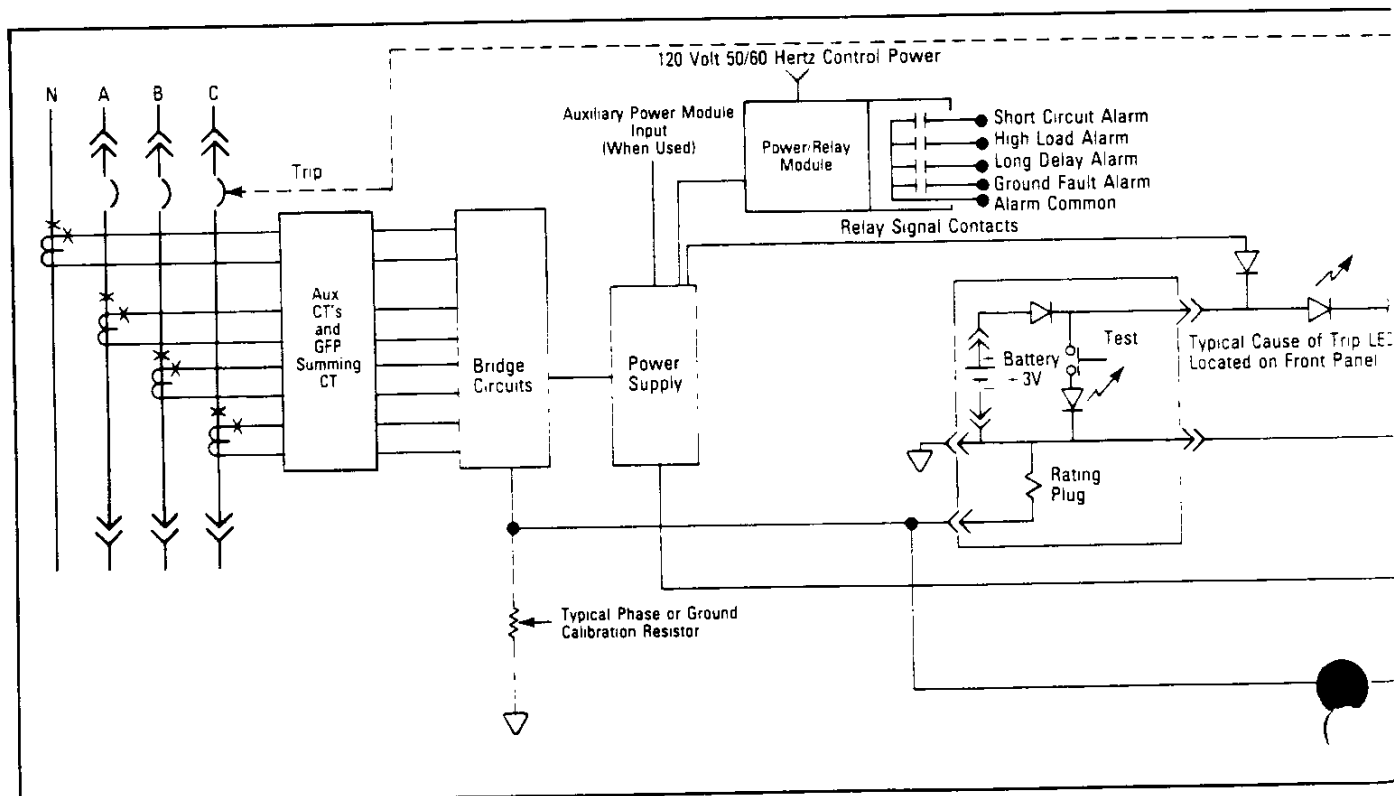

Fig. 3 DIGITRIP RMS 600 Block Diagram with Breaker Interface
The trip unit uses the INTEL MCS-51 family of microcomputers to perform its numeric and logic functions. The principle of operation can best be described by referring to the block diagram shown in Fig. 3.
As indicated in the block diagram in Fig. 3, zone interlock signals are provided. For DIGITRIP RMS 600 Trip Units equipped with either ground fault or short time protection functions or both, separate zone interlocking circuits are provided. When utilized, these input/output signals must be connected in the ultimate equipment assembly in line with details provided with the specific circuit breaker connection diagrams supplied with
External control power is required to operate the Power Relay module. The power relay module maintains the mode of trip LED indicators in their "On" position following an automatic trip operation as long as the control power is available. With a loss of control power following an automatic trip operation, a back-up battery as illustrated in Figs. 3 and 5 is provided to perform this function.
3. The Long Delay Relay in the Power Relay Module (see Figs. 3 and 4) will operate to transmit a remote Long Delay alarm signal.
2. The "High-Load" relay in the Power Relay Module (see Figs. 3 and 4) would have picked-up (after a 40 second delay,) to close a contact for a remote High-Load alarm.
3. The Short Circuit Relay in the Power Relay Module (see Figs. 3 and 4) will operate to close a contact for a remote Short Circuit Alarm.